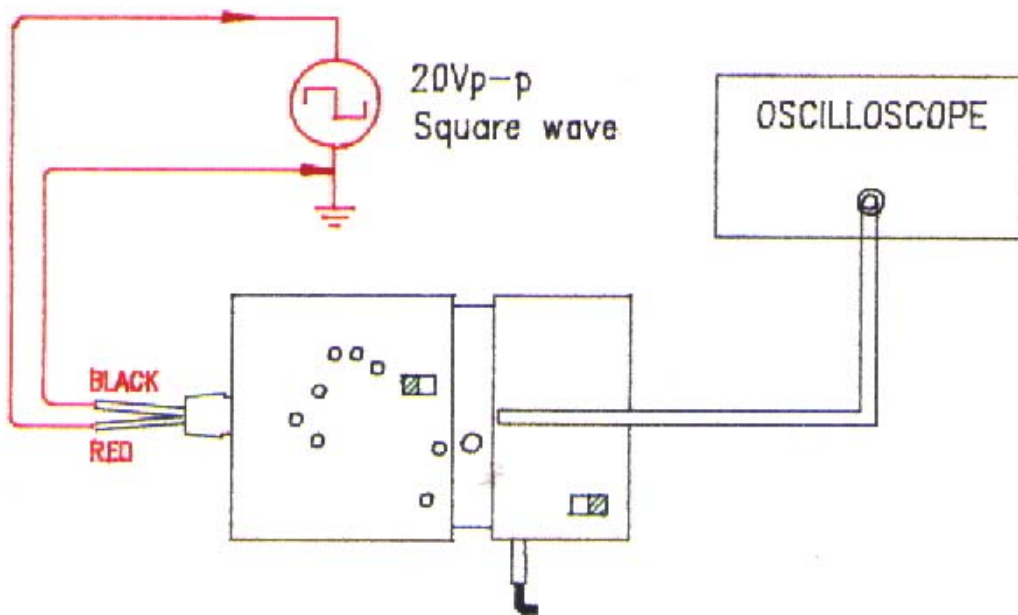

Fig. 10
- Referring to Fig. 10, connect output BNC to the oscilloscope has good grounding.